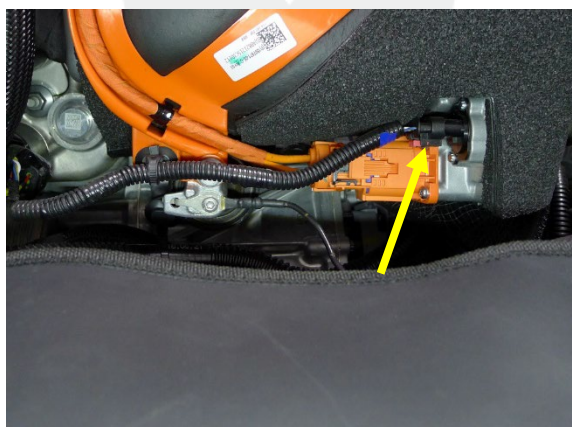

Figure 5
7. Pull the red tab out, and then pull the red tab again to disconnect the A/C compressor LV logic harness from the A/C compressor connector (Figure 5).